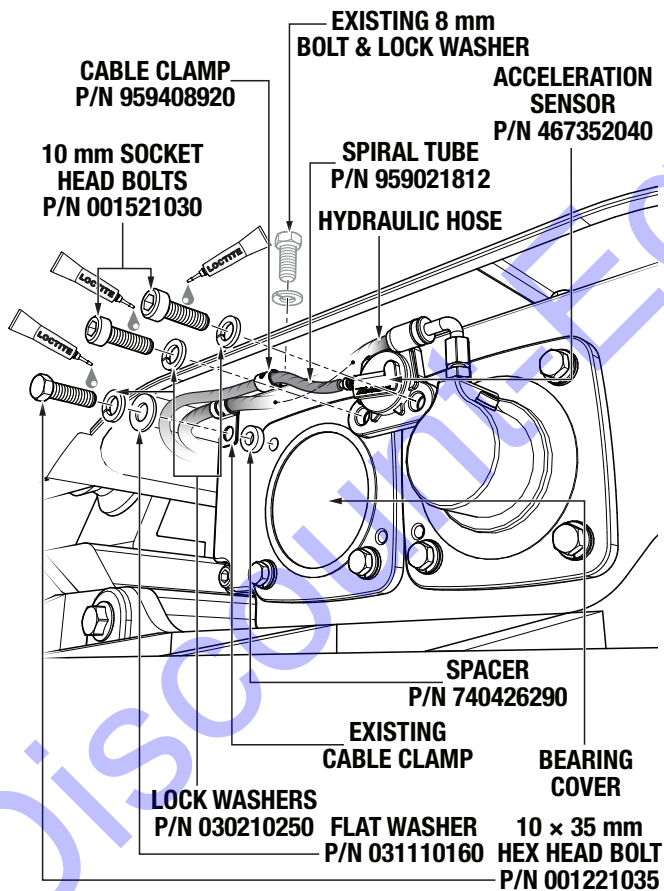

Figure 7. Acceleration Sensor Installation
- Place a small cable clamp (P/N 959408920) onto the spiral tube (P/N 959021812) near the sensor end of the acceleration sensor assembly (P/N 467352040). See Figure 7.
- Insert the existing 8 mm bolt that was removed earlier through the cable clamp (P/N 959408920) and existing lock washer. Reinstall the bolt at its original location and tighten securely. See Figure 7.
- Apply Loctite® 243™ to the threads on the two 10 mm socket head bolts (P/N 001521030). See Figure 7.
- Secure the acceleration sensor (P/N 467352040) to the vibrator with the two 10 mm socket head bolts (P/N 001521030) and lock washers (P/N 030210250). Torque the bolts to 54.2 ft-lb (73.6 N·m). See Figure 7.
- Apply Loctite® 243™ to the threads on the 10 × 35 mm hex head bolt (P/N 001221035). See Figure 7.
- Insert the 10 × 35 mm hex head bolt (P/N 001221035) through a lock washer (P/N 030210250), the flat washer (P/N 031110160), the existing cable clamp on the hydraulic hose, and the spacer (P/N 740426290). See Figure 7.
- Secure the hydraulic hose to the bearing cover with the 10 × 35 mm hex head bolt (P/N 001221035). Torque the bolt to 54.2 ft-lb (73.6 N·m). See Figure 7.